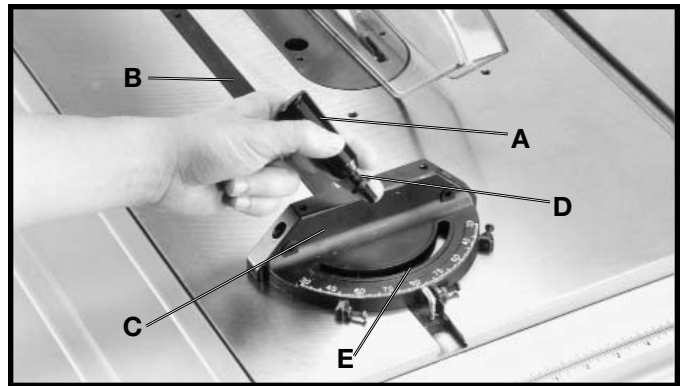

Fig. 65
Insert the miter gage bar (B) Fig. 65, into the miter gage slot. Insert the metal stud on the bottom of the miter gage body (C) Fig. 65, into the non tapped hole in the miter gage bar. Place a $2\frac{1}{64}$ " flat washer (D) Fig. 65, onto the miter gage handle (A). Insert the threaded end of the miter gage handle (A) Fig. 65 through the slot (E) on the miter gage body and thread the handle into the miter gage bar (B).